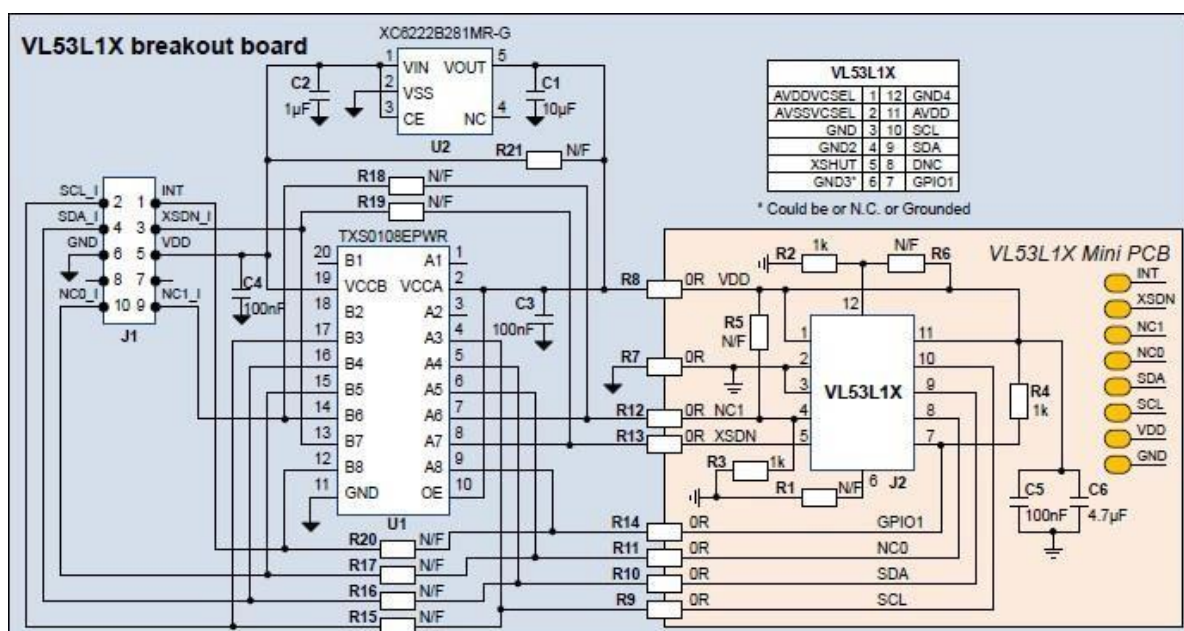
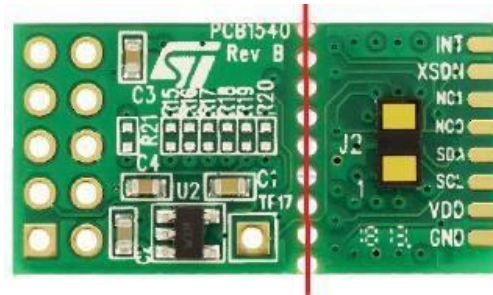

Figure 1 - VL53L1X-SATEL Schematic Diagram
Figure 2 - VL53L1X-SATEL Hardware
As indicated in the lecture on the I2C bus, there are two active signals, the Serial Data line (SDA) and Serial Clock line (SCL). Figure 1 shows the Schematic Diagram of the VL53L1X-SATEL board that you will be using. The board can operate off a 3.3V power supply that can be provided by the Pi-Zero.
**The pin connections on the VL53L1X you need to use are: pin 2 (SCL), pin 4 (SDA), pin 6 (GND), pin 5 (VDD, 3.3V).** Take your time and also look at Figure 2 and the surrounding information first to orientate yourself. Making these connections is nowhere near as easy as it looks, **particularly since the schematic (Figure 1) flips the relevant columns around!** Make a note of which colour jumper wire is connected to which pin, for use at the next step: connecting up to the Pi-Zero. **Do NOT proceed to power on your Pi-Zero until you are absolutely sure that you have got all your connections correct!**
Figure 2 shows a photograph of the VL53L1X-SATEL hardware. Pin 1 can be identified by the “square” solder pad which is the bottom left pad in Figure 2. To allow the connection of wires between the
VL53L1X-SATEL and the Raspberry Pi Zero W, a 10 pin header has been soldered for you onto the front side of the VL53L1X-SATEL board shown in Figure 2. Thus, the pins protrude from the rear of the board, and female-female cables can be used to form the connections between the two boards. So, let’s now look at how you can complete the connection on the side of the Raspberry Pi Zero W.